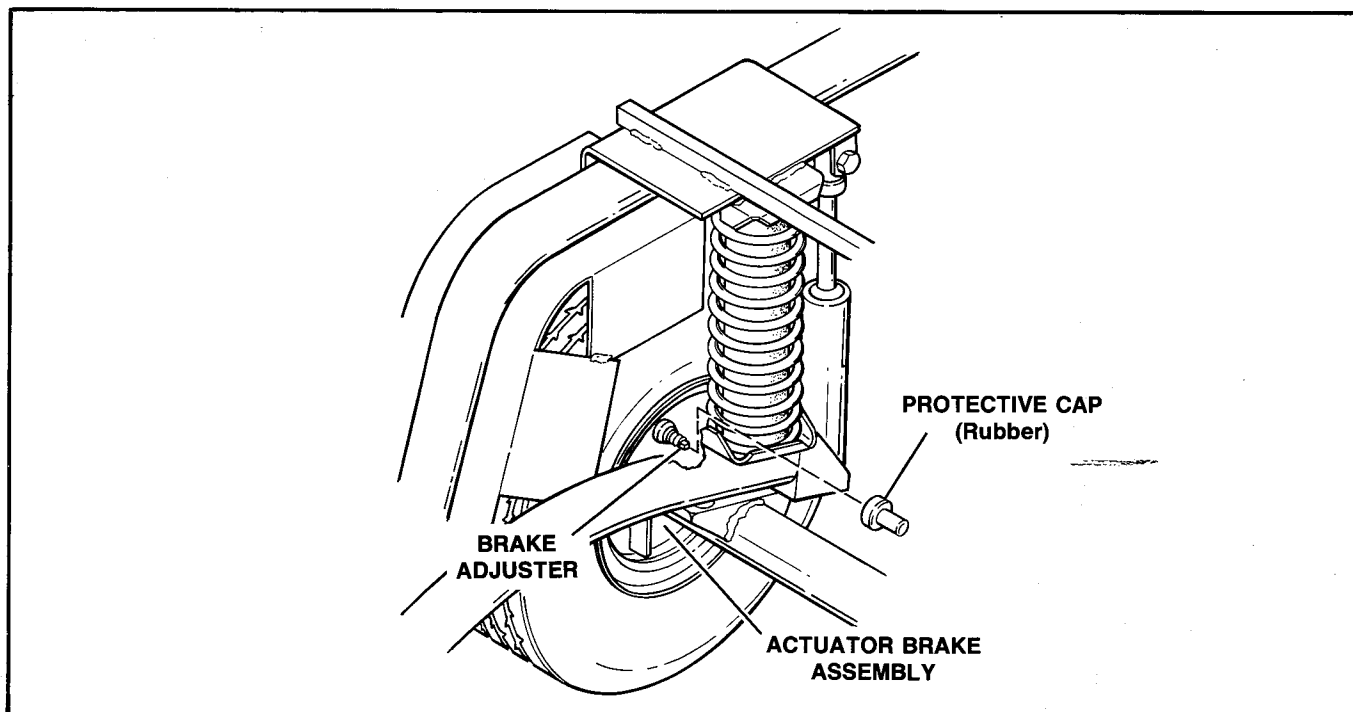

Figure 33 – Brake Cable Removal and Adjustment
Brake Cable Removal (Figure 33)
- b. Remove rubber protective caps, Figure 33, from brake adjusters on brake backing plates.